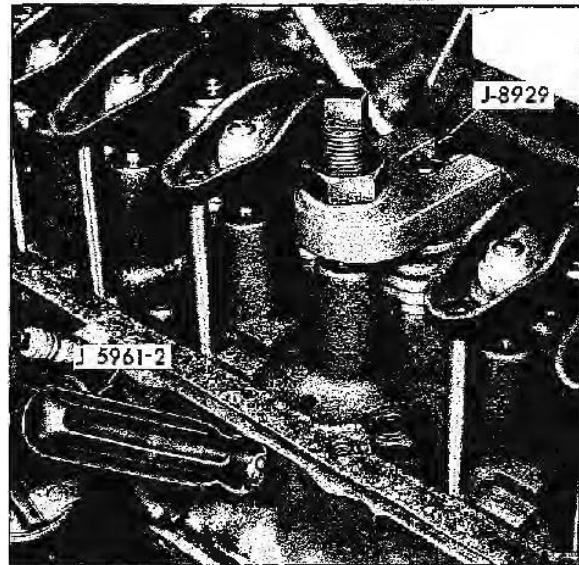

Fig. 6-14 Valve Spring Compressor installed
4. After removing rocker arm, thread valve spring compressor stud J-8929-1 on rocker arm stud. Compress valve spring using compressor J-8927-4 and nut J-8929-2 while holding valve up with valve holder J-5961-2 (Fig. 6-14). Remove valve spring retainer cup locks and then remove valve spring compressor, valve spring retainer cup shield and valve stem seal.